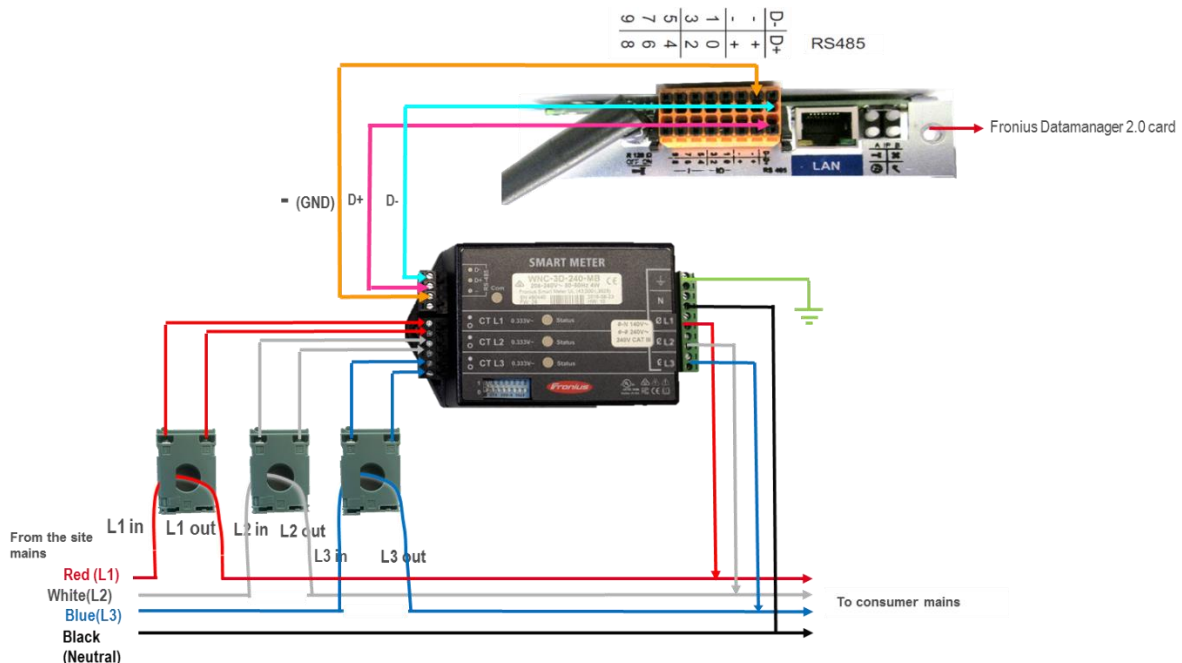

Figure 9: Wiring schematic - Fronius Smart Meter 480 V UL
- / If you see strange readings on unused phases, jumper the unused CT inputs for each unused CT, and connect a short cable from the terminal marked with a white dot to the terminal marked with a black dot (refer figure 9).